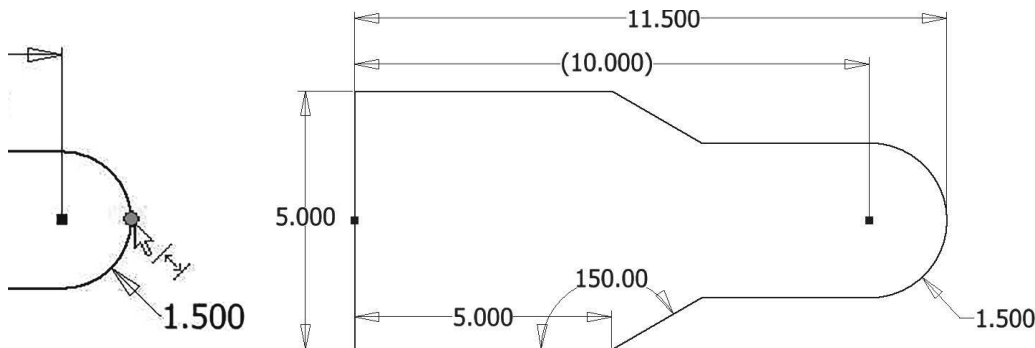

Figure 2.73
- 17** While still in Relax Mode, use General Dimension to add an overall horizontal dimension by clicking the vertical line (not an endpoint) and moving the cursor near the right tangent point of the arc until the middle point of the arc is highlighted and a glyph of a dimension appears, as shown in Figure 2.73 left.
- 19** Add a perpendicular constraint between the left vertical line and the top horizontal line. Your sketch should resemble Figure 2.73 right.